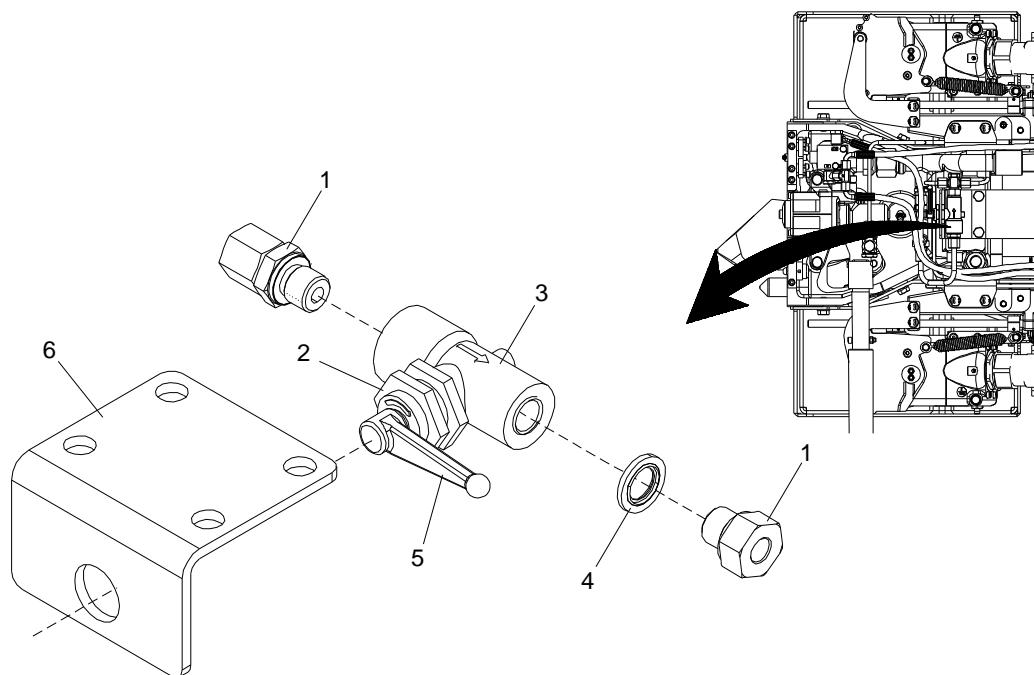

Figure 7-34: Replacement of Ball Valve
1. Remove the handle (5) and front nut (2) to loosen the ball valve (3) from the attachment plate (6). See Figure 7-34.
2. Remove the ball valve (3) by removing the pipe connections (1) and washer (4).
2. Fit the ball valve (3) to the attachment plate (6) and attach the washer (4) and pipe connections (1). See Figure 7-34.
3. Fit the front nut (2) and handle (5).